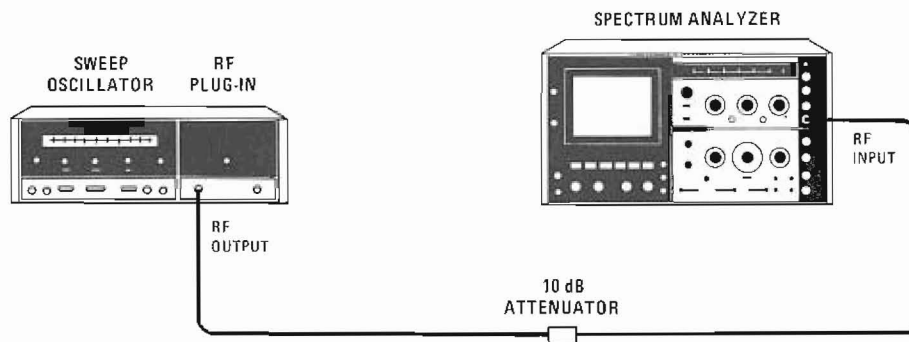

Figure 4-11. Spurious Signals Test Setup
- a. Connect equipment as shown in Figure 4-11.